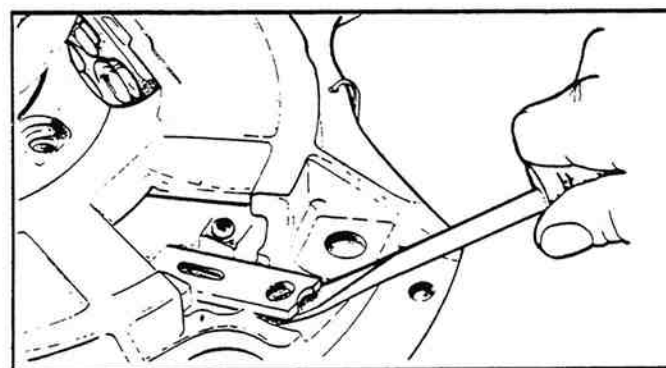

Figure 5-5. Remove Adjusting Ring Lock.
5. Remove bolt and lock washer assembly and adjusting ring lock. Use screwdriver of similar wedge to remove adjusting ring lock (figure 5-5).